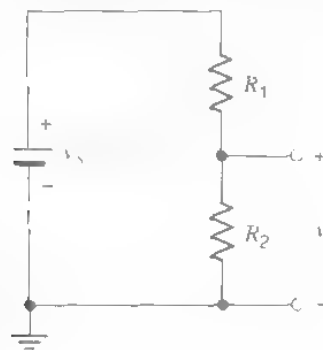

Fig. 5
11. Construct the voltage divider shown in Fig. 5, using two different-valued resistors with values of several $k\Omega$ each. Set v_s to any convenient value, measure v , and verify that it satisfies the voltage divider formula:
14. Replace the two resistors of Fig. 5 by the potentiometer, as in Fig. 7. Use any convenient value for v_s . Observe the effect of the potentiometer setting on the value of v . What are the minimum and maximum attainable values of v , in comparison to v_s ?